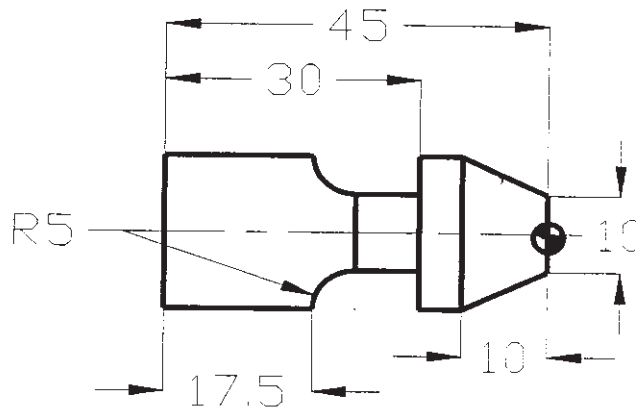

Fig. 3
- Q5) a)** Prepare the part program for the component shown in Fig.3 to be machined on CNC turning center. [12]